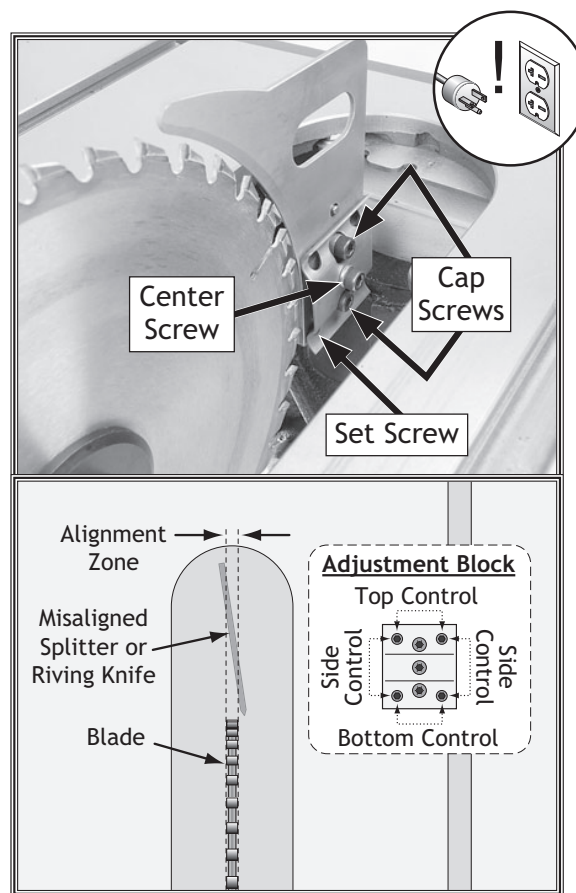

Figure 102. Set screws for adjusting spreader/riving knife position.
3. Adjust each pair of set screws that controls the direction required to move the mounting block so the riving knife can be aligned with the blade (see **Figure 102**). Make sure to move both screws in even increments.